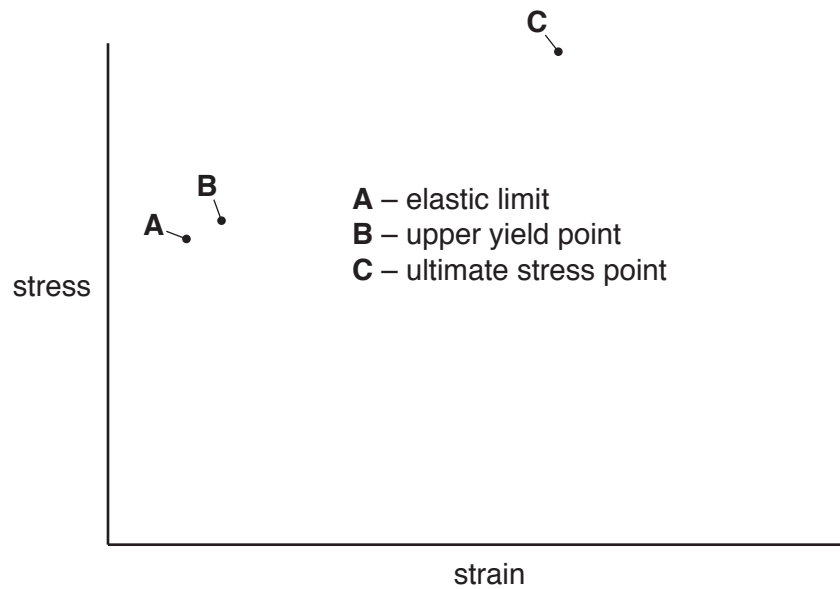

Fig. 7
- (c) Fig. 7 shows the axes for a stress/strain graph for mild steel.
- (i) Draw the shape of the graph on Fig. 7. [3]